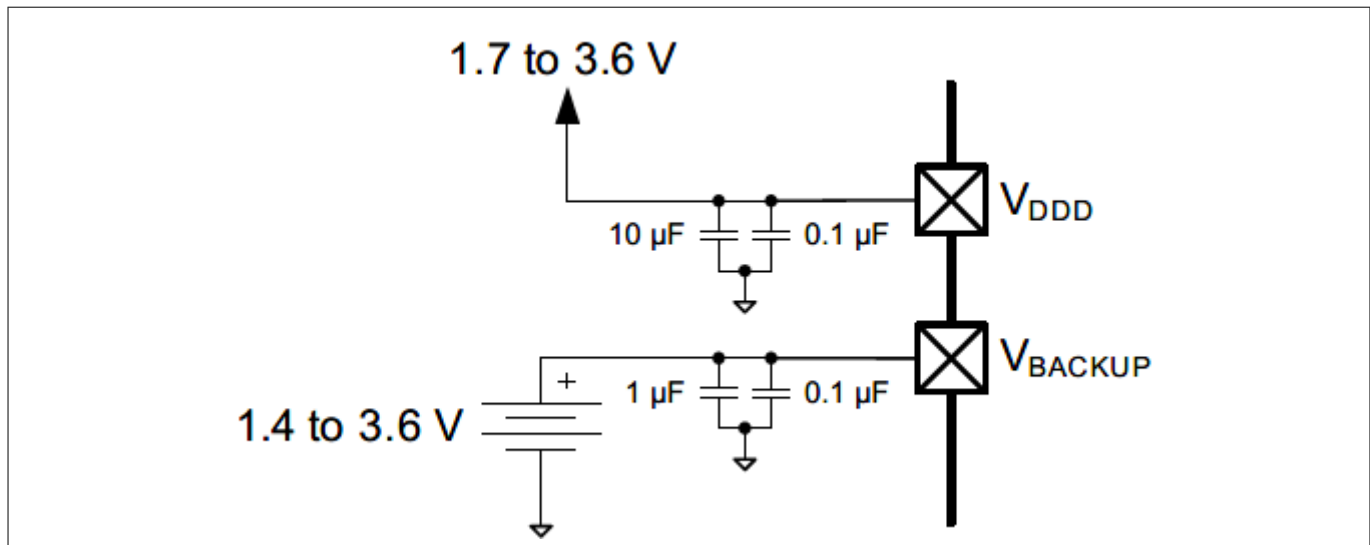

Figure 15 Separate Battery connection to V_{BACKUP}
- V_{BACKUP} : the supply for the backup domain, which includes the 32-kHz WCO and the RTC. It can be a separate supply as low as 1.4 V, for battery or supercapacitor backup, as Figure 15 shows. otherwise it is connected to V_{DD} . It powers I/O port 0.